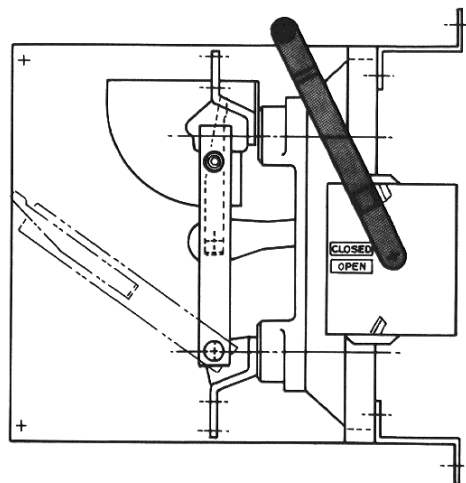

Fig. 7 Handle "UP" in switch closed position.
The component parts for this type are arranged per Fig. 7. The arrangement is essentially the same as for Type III except the handle is on the right side of the enclosure.
- a. Mount the frame-mounted switch (Fig. 7) in the enclosure. Check to be sure the 2-1/4" dimension from frame-mounting holes to outside of enclosure (per Dwg. 424-014) has been maintained.
- d. Move handle to "UP" or closed position as shown in Fig. 7 and engage hub and key of handle with shaft extension and keyway of stored-energy device.